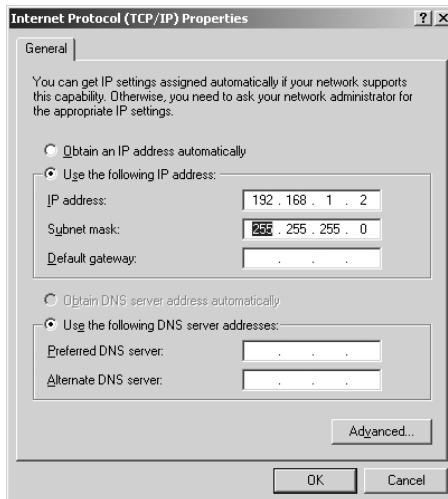

Figure 5: Internet Protocol (TCP/IP) Properties Window
5. Select **Use the following IP Address**¹, and fill in the details as shown in Figure 5.